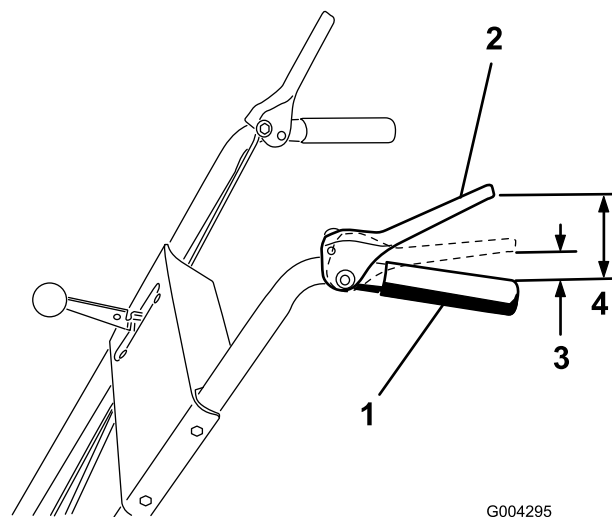

Figure 7
2. Adjust the 2 flange nuts up or down on the traction rod until the distance between the top of the handgrip and the bottom of the traction control lever is approximately 4-1/2 inches (11.4 cm) as shown in Figure 7.
4. Move the speed selector lever (Figure 7) into third gear.
Note: The adjustment is correct when the wheels stop rolling backward and the distance between the top of the handgrip and the bottom of the traction control lever is 1 to 2 inches (2.5 to 5 cm) as shown in Figure 7.